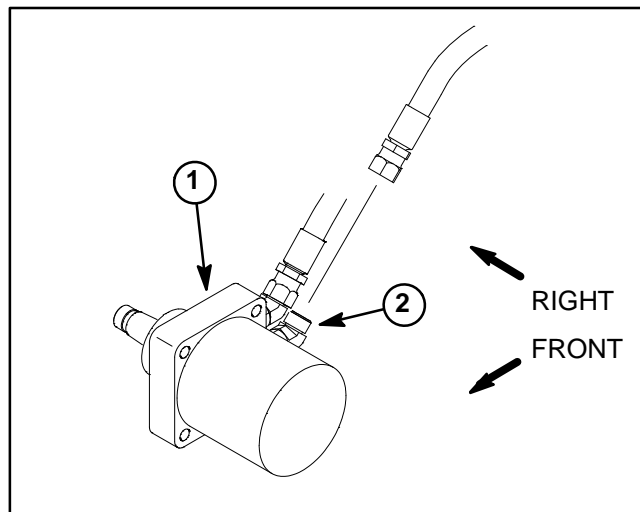

Figure 42
3. Thoroughly clean junction of hydraulic hose and lower fitting on rear wheel motor (Fig. 42). Disconnect hose from lower fitting on wheel motor.
7. With engine running at low idle speed, slowly depress the forward traction pedal to the full forward position to allow flow through the traction circuit and high flow filter. Keep traction circuit engaged for five (5) minutes while gradually increasing both forward pressure on traction pedal and engine speed. Monitor filter indicator to make sure that green color is showing during operation.
8. With engine running at high idle speed and traction pedal moved to the forward direction, periodically apply brakes to increase pressure in traction circuit. While monitoring filter indicator, continue this process for an additional five (5) minutes.
9. With engine running at high idle speed, alternately move traction pedal from forward to reverse. While monitoring filter indicator, continue this process for an additional five (5) minutes.